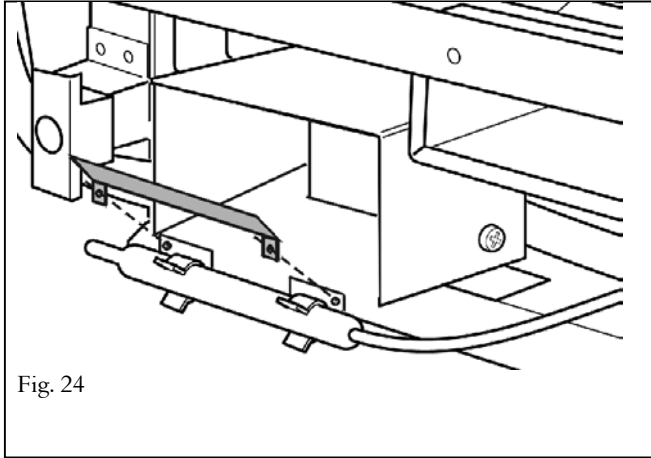

Fig. 24
7.7.1 Fit the phial heat shield over the thermostat phial with two screws – See fig. 24.